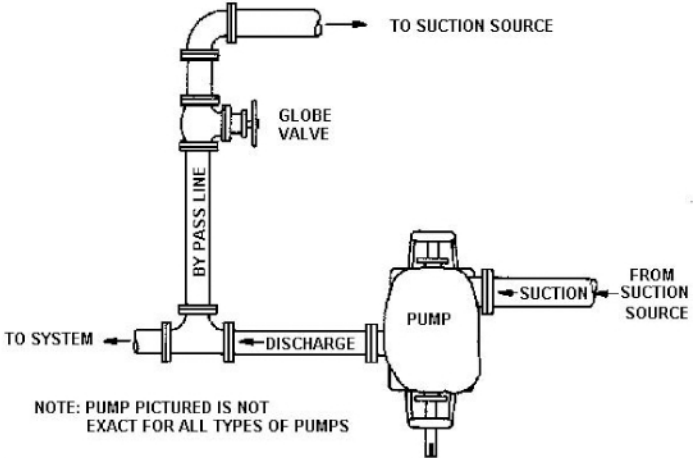

Figure 7 PUMP BYPASS ARRANGEMENT
5. During new system tests, check out, early part load system operation, or when prolonged operation at less than about 15% of rated capacity is possible, installation of a pump bypass is recommended as generally shown in Figure 7.